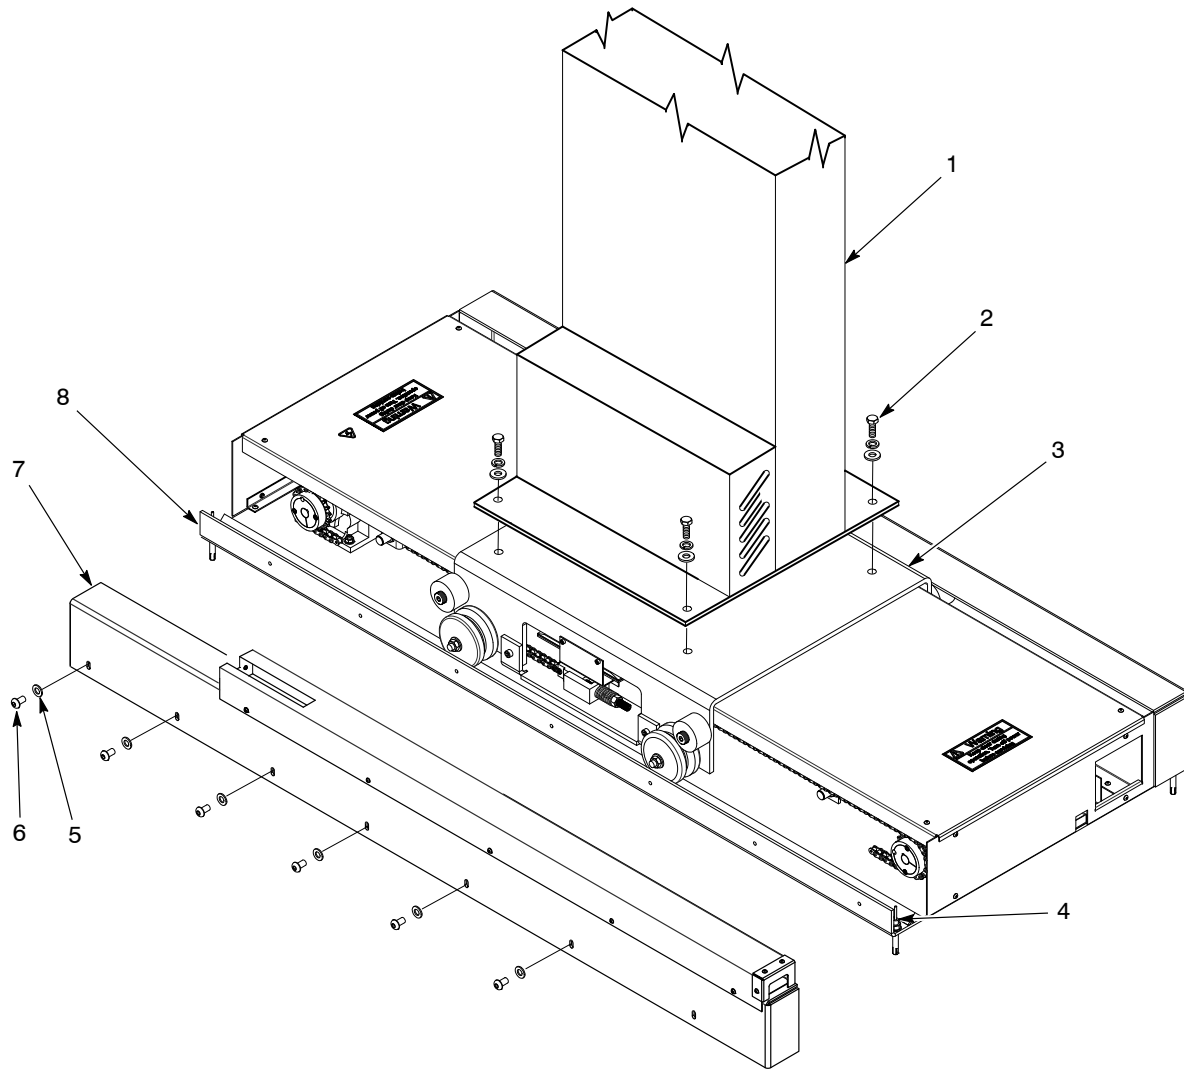
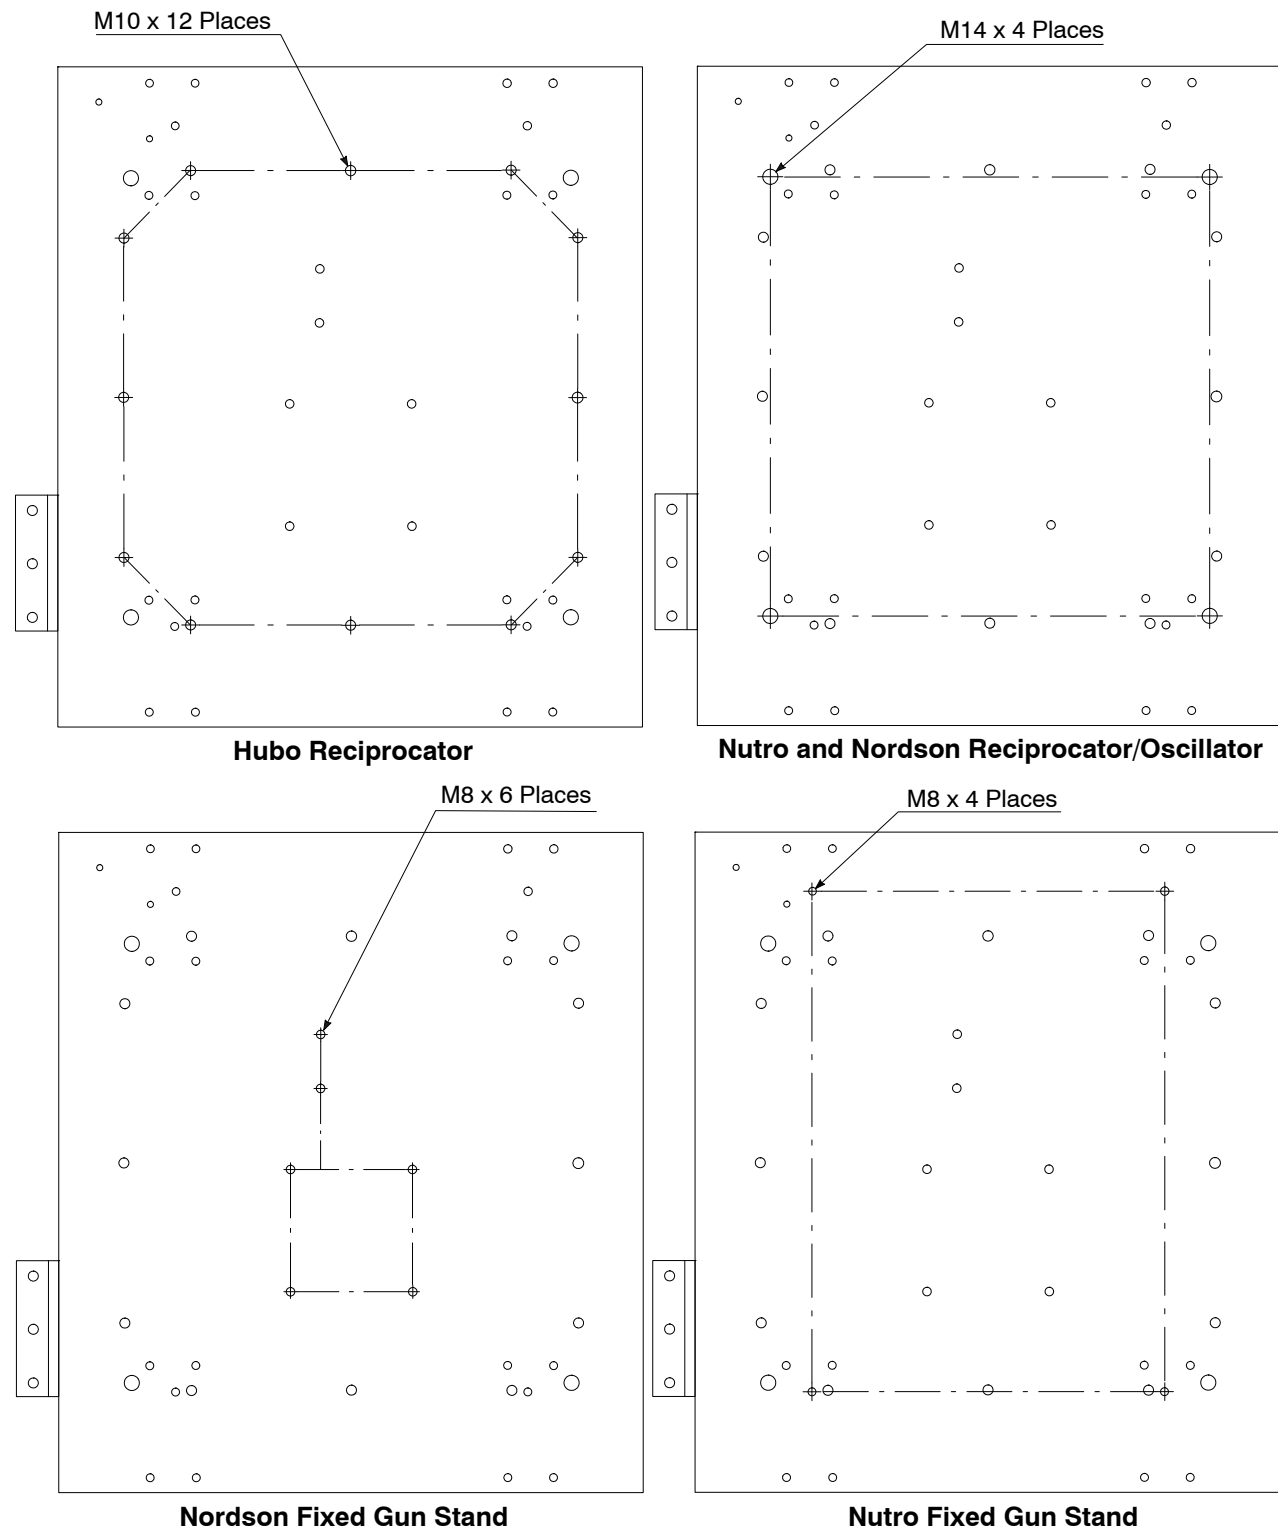

Figure 4 Installation
Figure 6 Carriage Hole Patterns
NOTE: The side covers and hardware shown in Figure 4 may have been removed during unpackaging.
2. See Figures 4 and 6. Using appropriate lifting equipment, carefully install the oscillator, reciprocator, or fixed gun stand (1) onto the carriage (3) and bolt it in place to the carriage with appropriately sized hex head screws, lock washers, and flat washers (2). Figure 6 includes the carriage hole patterns for various fixed gun stands, oscillators, and reciprocators.